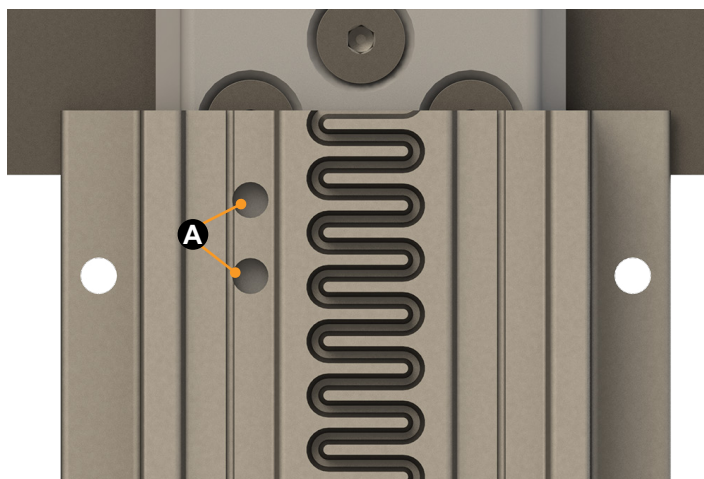

Fig.7
4. Hit any button on the remote (Fig.7).